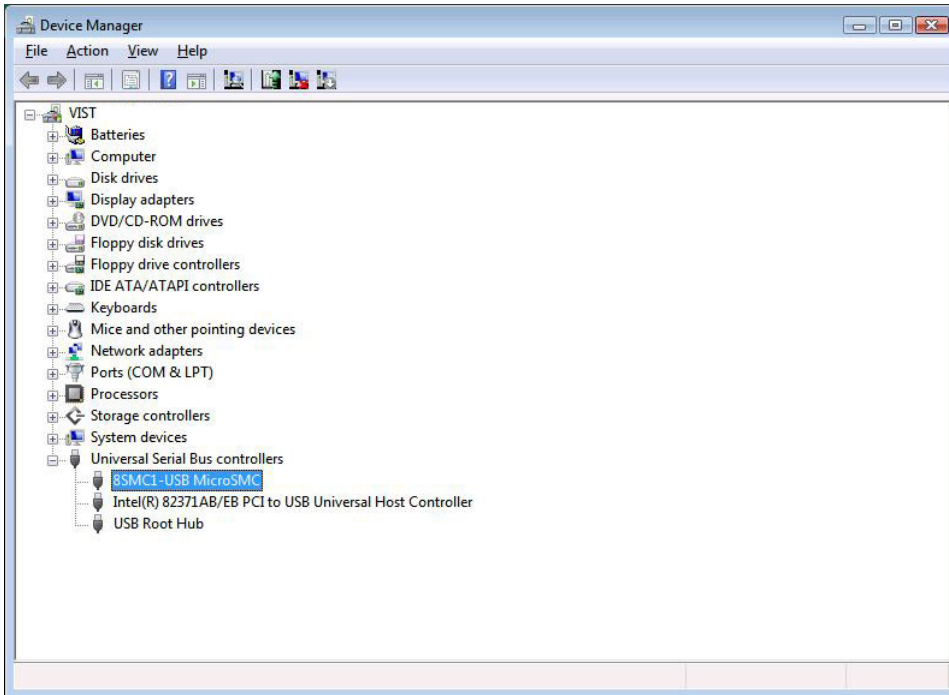

**Figure 76.** Windows has successfully updated driver.
- Then new driver will be successfully installed (see Figure 76).